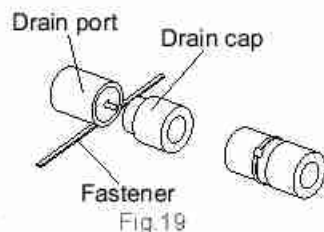

Fig.19
8. When using the drain port on the right side of the unit, reinstall the drain cap to the left side drain port.(Fig.19)